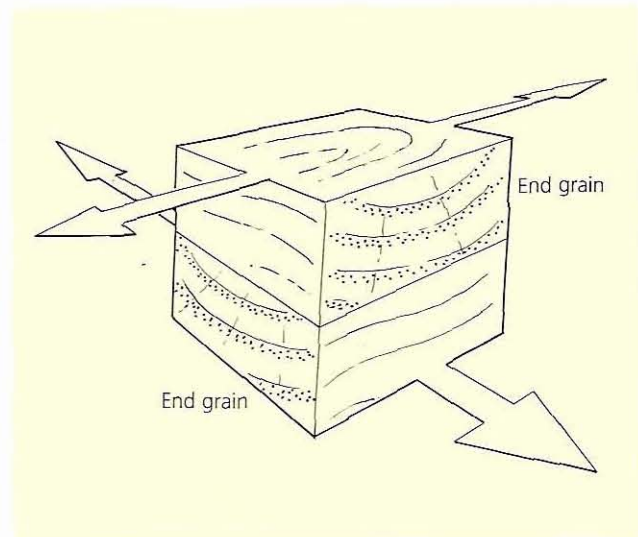

Fig 6.61 The principal movements of boards that have been glued with fibres running in contrary directions will be antagonistic
- when grain runs in different directions, so movements are working against each other (Fig 6.61)